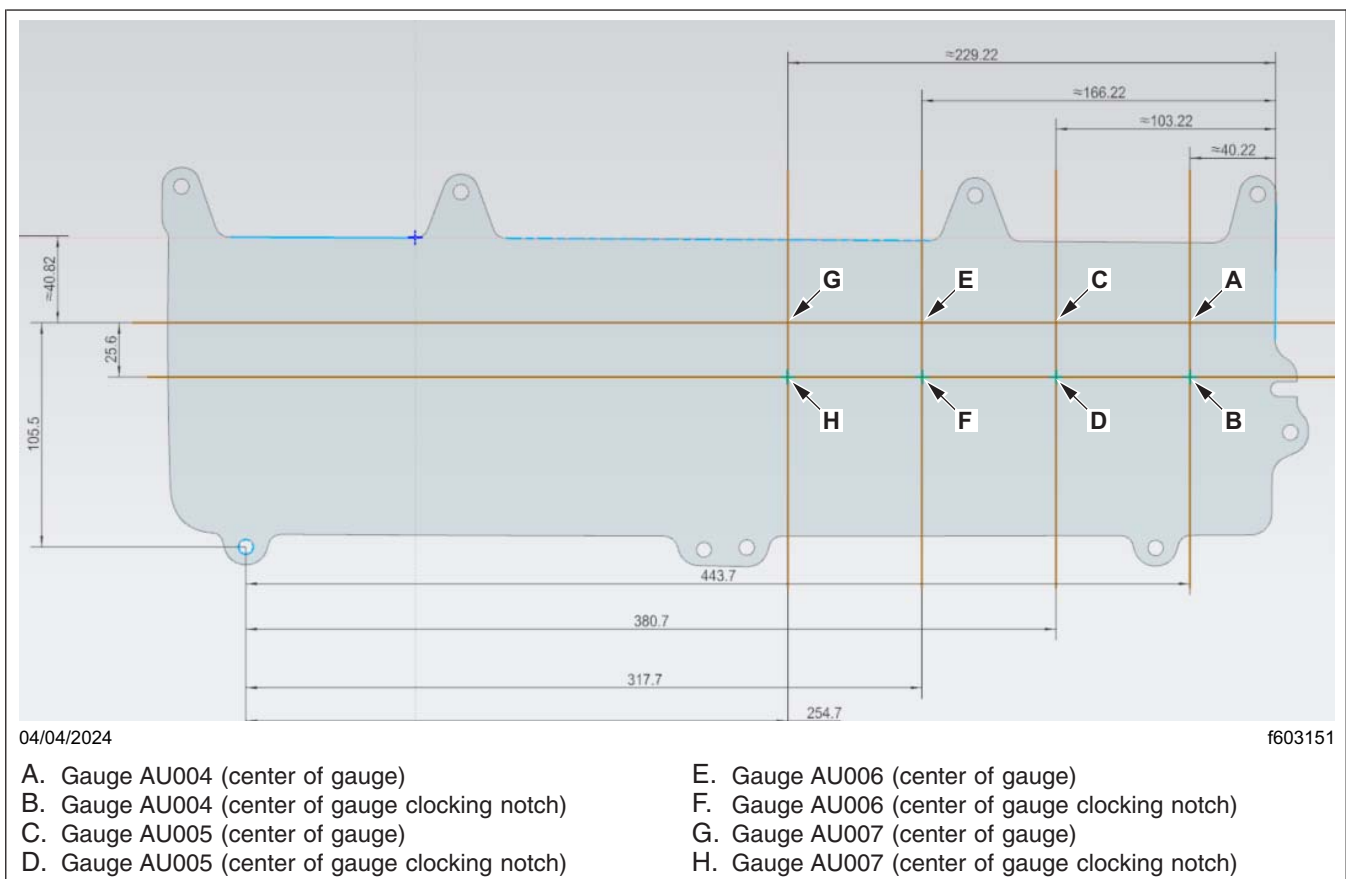

Fig. 14, Locations for the Gauges AU004, AU005, AU006, and AU007; Lower-Center Dash Panel (AU)
14. Mark the location of the gauge centerline and the center of the gauge clocking notch to be installed, per the dimensions shown in Fig. 14.
NOTE: In this campaign, no vehicles require a transmission temperature gauge to be installed in the position AU007. Some vehicles may have a different gauge installed in the position of AU0007. Position AU007, shown in Fig. 1 and Fig. 14, is for reference only.